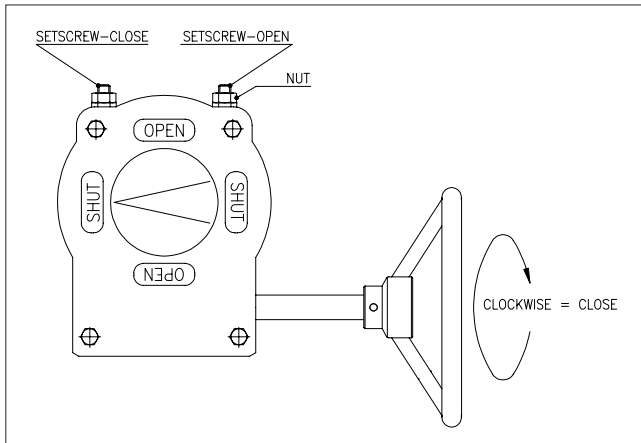

Fig. 3 Gearbox setscrew adjustment
4. When the fully closed position can not be achieved, loosen the setscrew-close (see Figure 3) by turning them counterclockwise. Continue turning the handwheel until the valve is totally closed. Please note, that the butterfly valves need to be closed using a given torque, see the tables in a relevant valve manual.
7. When it can not be achieved to open the valve totally (90°), loosen the setscrew-open (see Figure 3) by turning it counterclockwise. Continue turning the handwheel until the valve is totally opened.